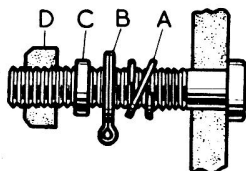

FIG.3.4. THE TERMINAL ARRANGEMENT
- 2 Fit the terminal screw "W" to the pedestal and then fit the double coil spring washer, the cable tag, the new lead washer and the nut in that order. Tighten the nut. (see Fig.3.4 for assembly detail).